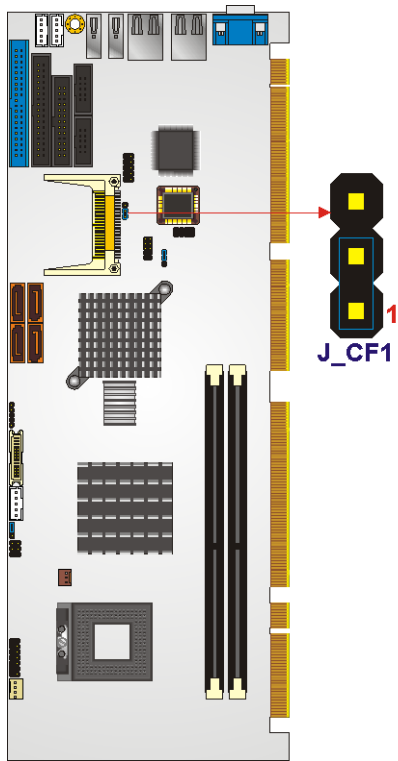

Figure 5-9: CF Card Setup Jumper Location
- Jumper Location:** See Figure 5-9
The CF Card Setup jumper location is shown in **Figure 5-9**.